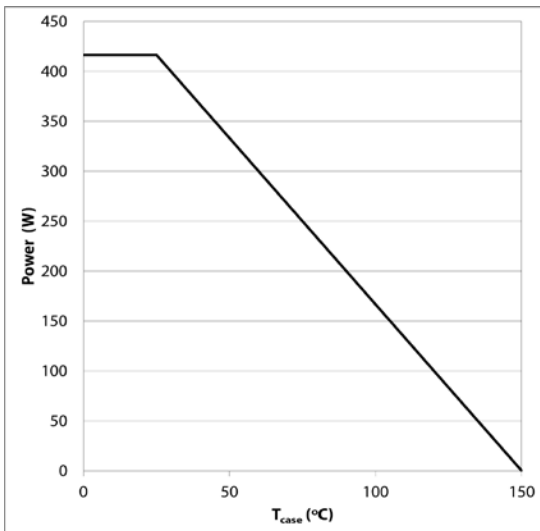

Figure 13: Derating vs. Case Temperature
(7) L_P is the switching circuit parasitic inductance.
(8) See Figure 13 for switching test circuit.